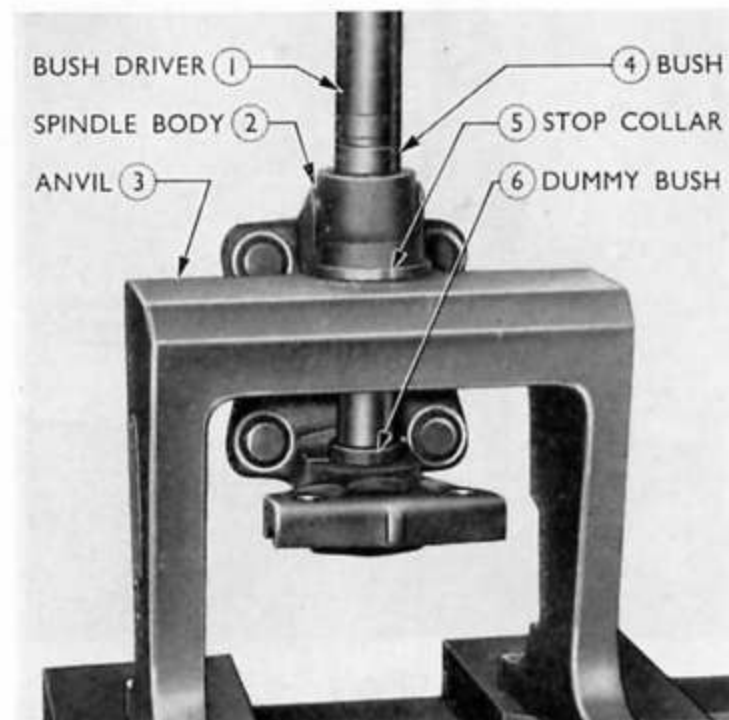

Fig. 6
2. **Locate a new bush** on the driver with the lubrication hole uppermost. Enter the driver and press the bush into place, ensuring that the lubrication holes line up (see Fig. 6).